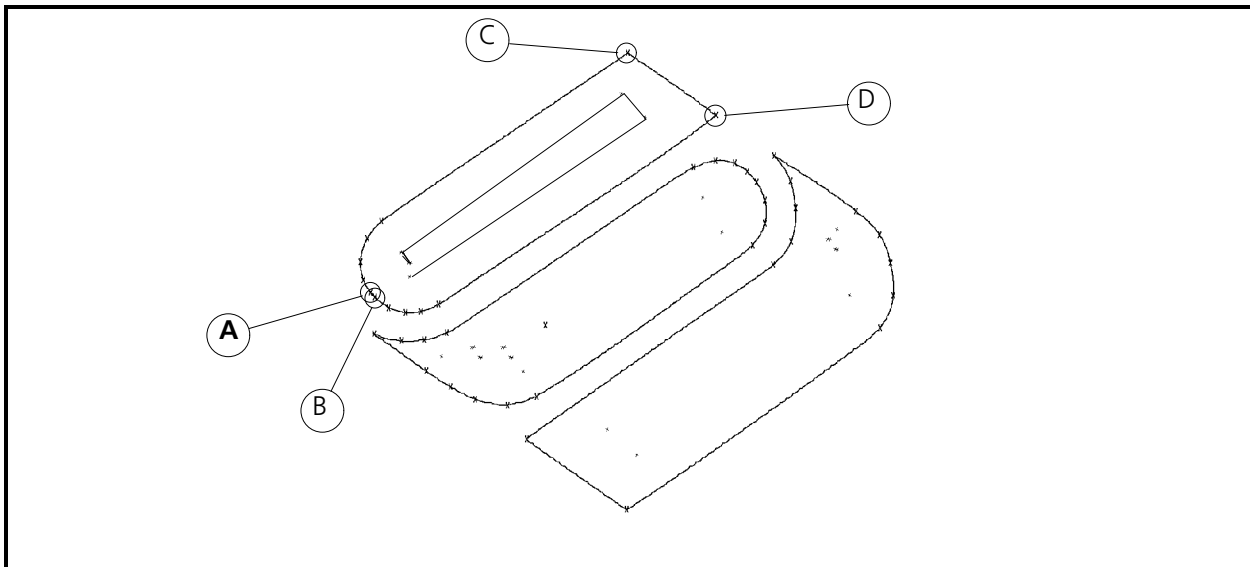

Figure 6-73
5. Go to the lower left area of the top section of the logo and enter a Mk1 at point A as shown in Figure 6-73. This first Mk1 (identifying the beginning of the first line of stitches in the fill) will be slightly offset from the exact mid-point of the arc in that shape.